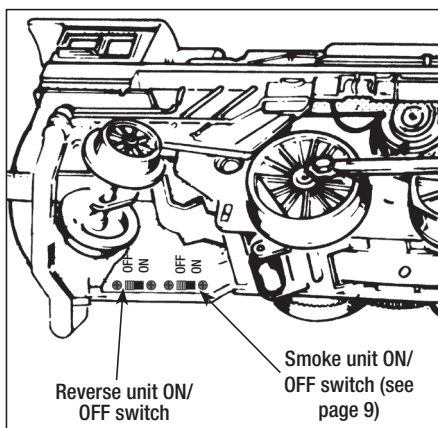

Figure 8. Switch location
**Y**our locomotive is equipped with a smoke generator that produces safe, clean white smoke during operation if the smoke unit switch is in the ON position. Refer to Figure 8 on page 14 for the location of the switch.
Also, the locomotive can be “locked” into a certain mode of operation by throwing the reverse unit switch located on the underside of the frame (see Figure 8). To lock your locomotive into a specific operational state, sequence the locomotive into the desired state and reduce track power without completely powering down the locomotive, then throw the switch to the OFF position. The DIRECTION button will then have no affect on the direction of the locomotive. If you would like to resume forward-neutral-reverse operation, simply throw the reverse unit switch back to the ON position.